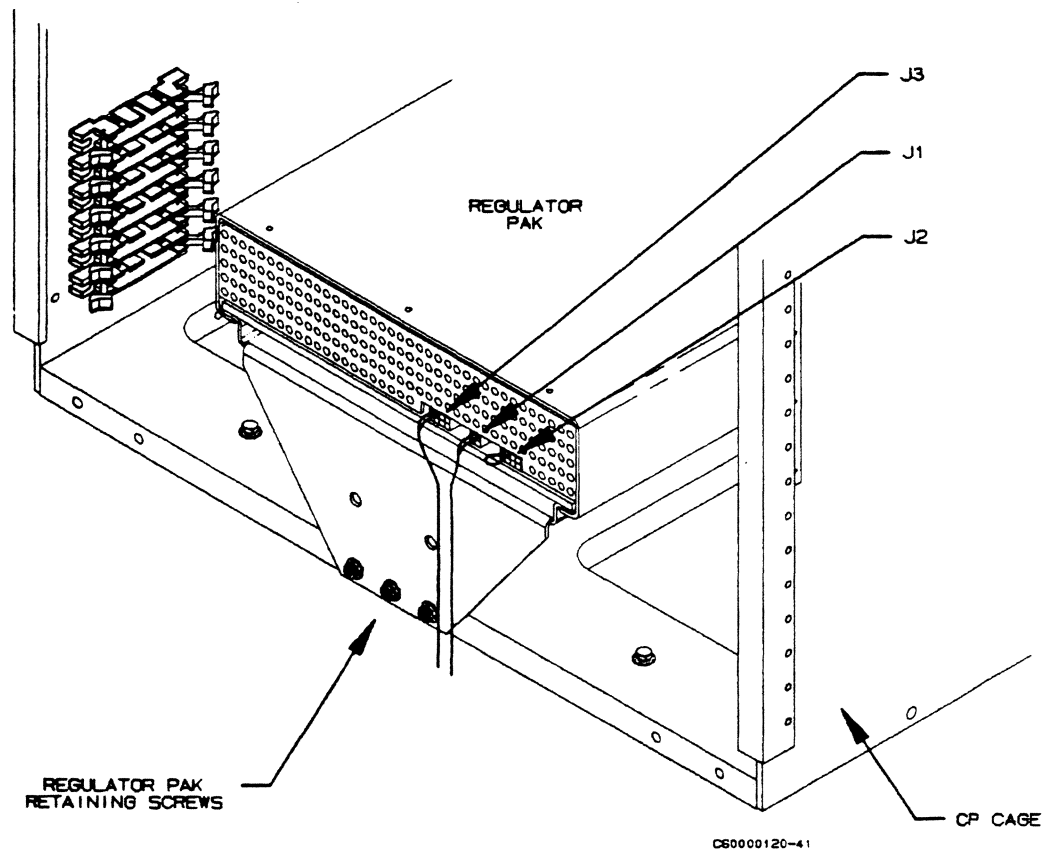

Figure 3-37. CP Regulator Pak
- ___ 3. Place pak on channel guide (figure 3-37) at bottom of CP-0 logic cage. Slide pak into cage, through a springy resistance, until it seats in rear connectors.